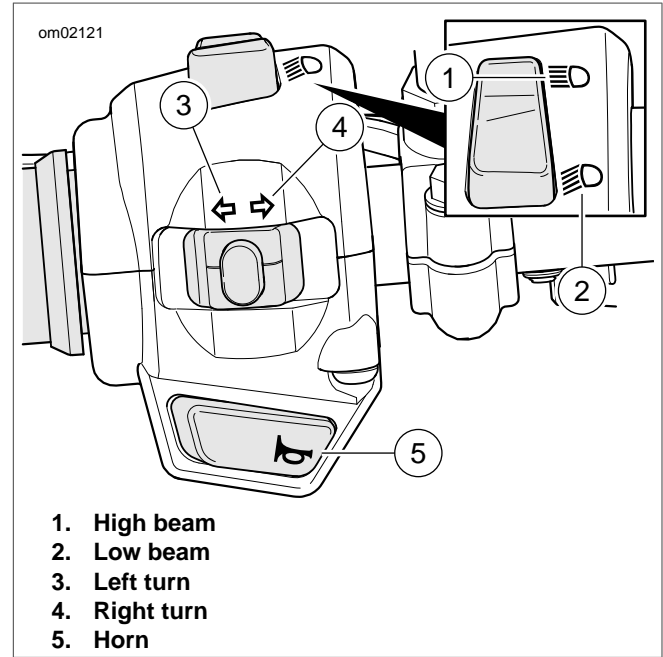

Figure 19. Left Hand Control Switches
See Figure 19. Press the high beam switch (1) to select the headlamp high beam. The high beam indicator illuminates when the high beam is on. Refer to Table 8.
See Figure 19. Press the low beam switch (2) to select the headlamp high beam. Refer to Table 8.
See Figure 19. Press the turn signal switch left to activate the left turn signal. The signal flashes until it is manually canceled. To cancel, push the center button to center detent. Refer to Table 8.
See Figure 19. Press the turn signal switch right to activate the right turn signal. The signal flashes until it is manually canceled. To cancel, push the center button to center detent. Refer to Table 8.
See Figure 19. Press the horn switch to sound the horn. Refer to Table 8.